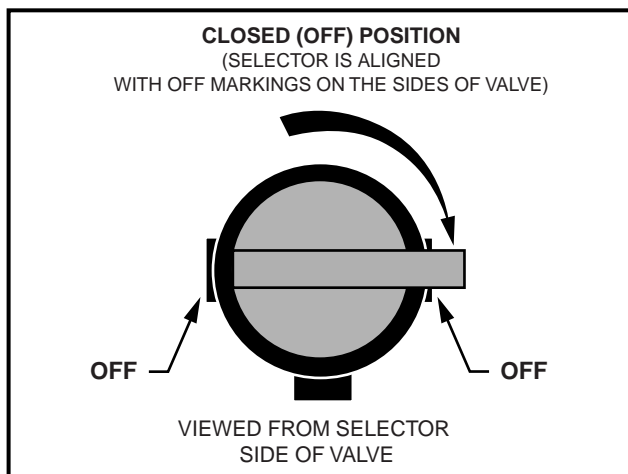

Figure 12 Closed Fuel Shut-off Valve
2. Turn key switch to OFF and place the Forward/Reverse handle in the NEUTRAL position. Remove the key and turn fuel shut-off valve to closed (OFF) position when the vehicle is not in use (**Figure 12, Page 12**).
- TURN FUEL SHUT-OFF VALVE TO CLOSED (**OFF**) POSITION (**FIGURE 12, PAGE 12**).